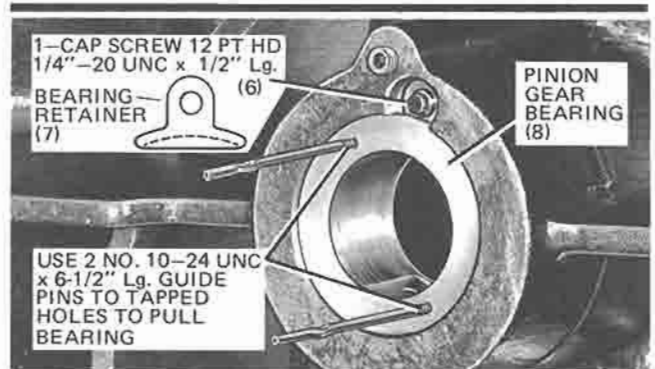

FIG. 22 — REMOVING FRONT HIGH SPEED BEARING
Using 1/4" socket, remove the 12 pt. hd. cap screw 1/2"-20 x 1/2" lg. (6) and the special washer (7) which secures the pinion gear bearing (10) in position in the rotor support. Pull the pinion gear bearing (10) with No. 10-24 UNC x 6-1/2" lg. guide pins (064-46488) provided in the tool kit. (See Fig. 22).
### REMOVING FRONT HIGH SPEED PINION GEAR BEARING (See Fig. 22)